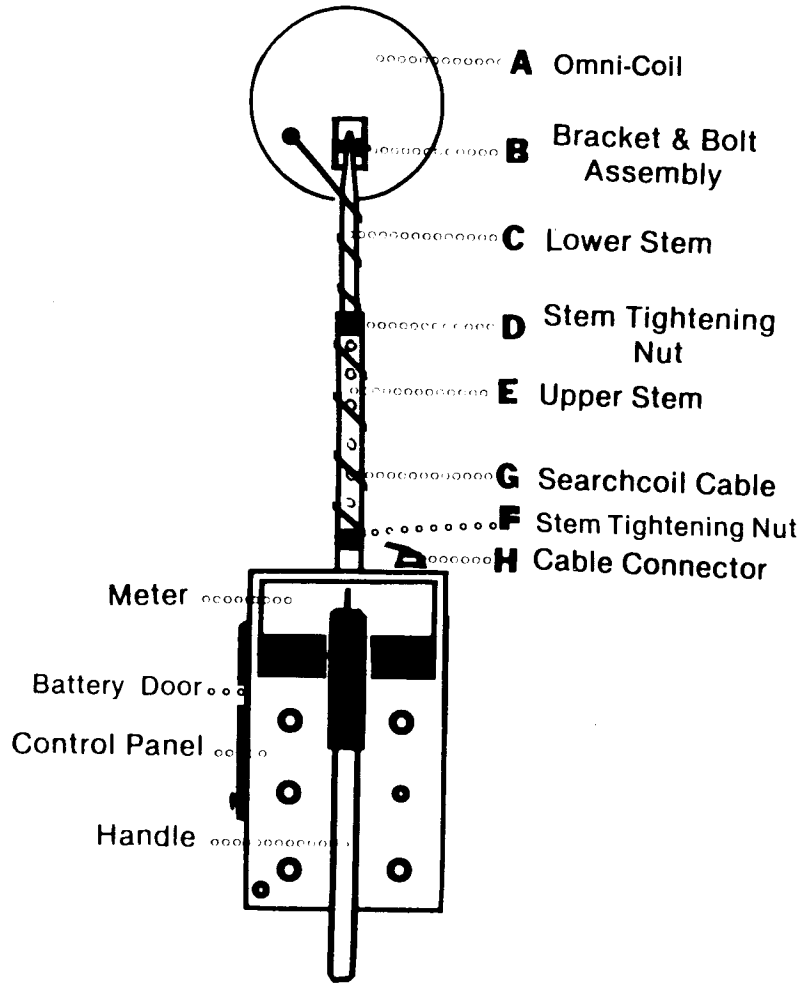

FIGURE 1
1. See Figure 1 and familiarize yourself with the basic terminology for items discussed in this section and refer back to it when needed.
3. Now install the **OMNI-COIL** on the flatted lower stem. Notice the (B) square-head (4 sided) bolt and wingnut that attach the **OMNI-COIL** to the (C) lower stem. When changing or removing for any reason, always be sure the bolt is inserted from the left side with the 4 sides on the bolt head fitting securely into the 4 sided hole in the **OMNI-COIL** bracket. Next tighten the wingnut on the bolt as tightly as possible with your fingers — **DO NOT USE TOOLS TO TIGHTEN. If the wingnut is not adequately tightened, you will find it difficult to keep the detector properly tuned while using the detector.**
4. Now adjust the stem length to your own preference by first loosening the stem tightening nut (Figure 1 Letter D.) and locking the snap-lock into the desired hole on the bottom side of the upper stem. After adjusting the stem to the desired length use your hand to tighten the (D) stem tightening nut as securely as possible. The entire stem should now become rigid without annoying slop. To determine what length is best for your operation of the detector, stand straight, relax, and let the back of the detector **OMNI-COIL** touch the ground about 14"-18" in front of the toe of your shoe.